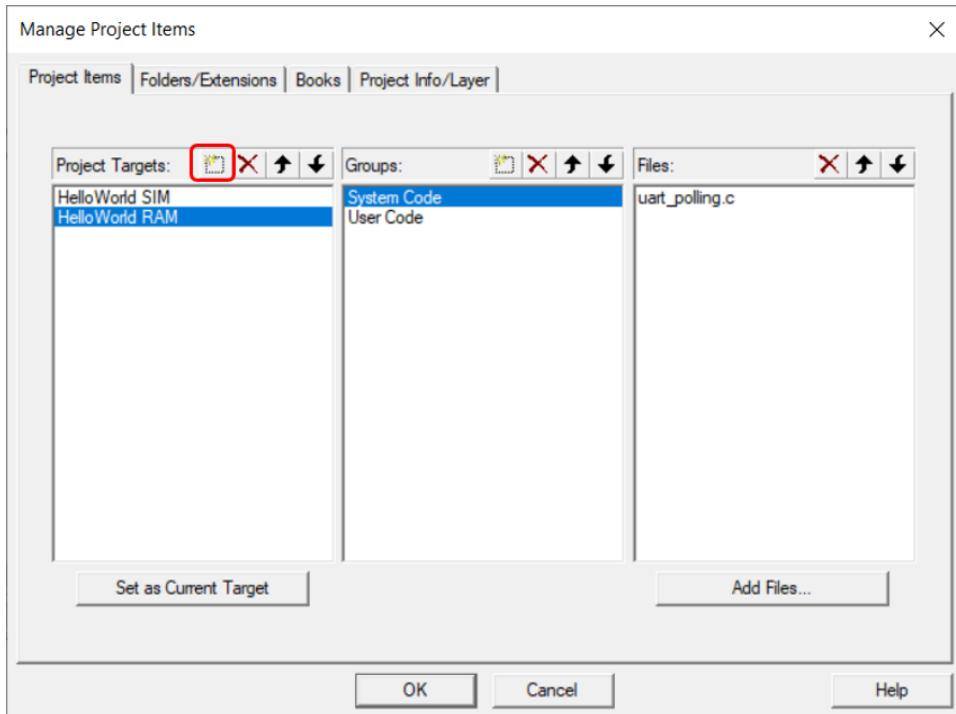

Figure 8.24: Keil IDE: Manage Project Items Window.
2. Press the New icon to create a new target and name it “HelloWorld RAM”(see Figure 8.24). The new target duplicates the HelloWorld SIM target configuration.